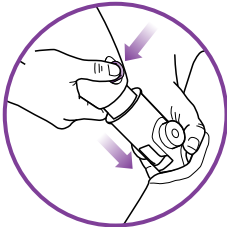

fig. 4
When using the Handheld Steamer, press and hold the steam trigger to start steaming. (Fig. 4)
- 4 Snap the mop head into the mop body by lining up the groove on the back of the mop body with the groove on the back of the mop head. Push until you hear it latch into place. **(fig. 4)**